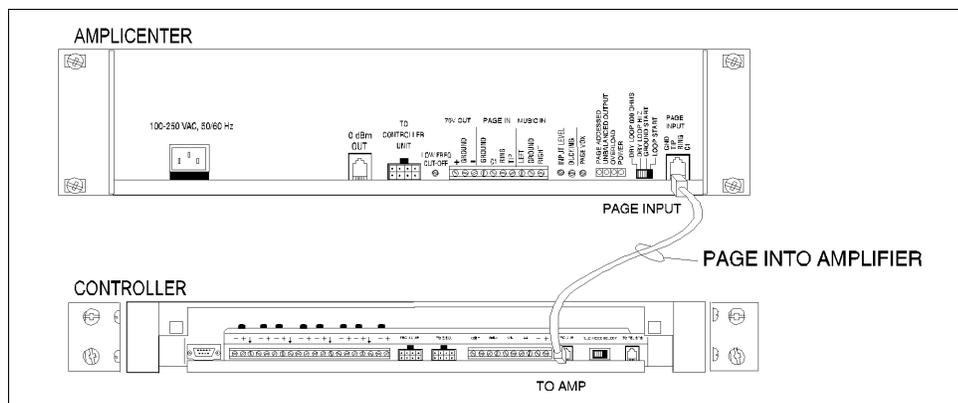

Figure 4. Page In Connection from Controller to AmpliCenter
3. Plug modular cord into connectors “To Amp” on Controller and “Page In” on AmpliCenter (see Figure 4).